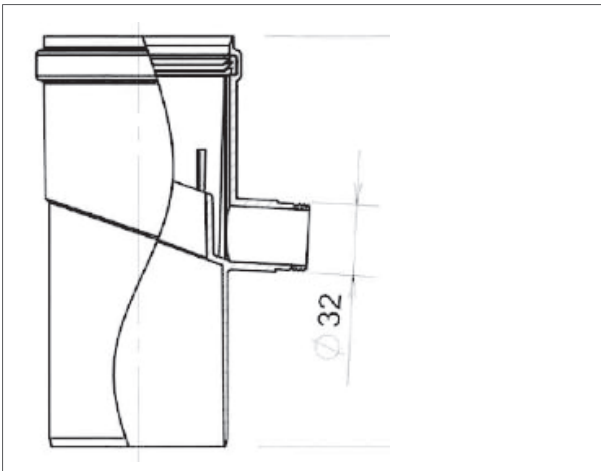

Figure 14 - Condensate drain
- Add a condensate drain (figure 14).